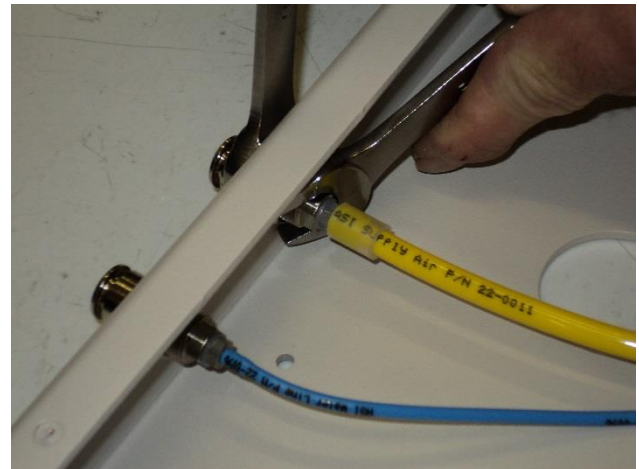

Fig. 2
5. Using a 9/16" wrench on the inside nut and a 9/16" wrench or adjustable wrench on the outside, loosen nut. (Fig. 2)